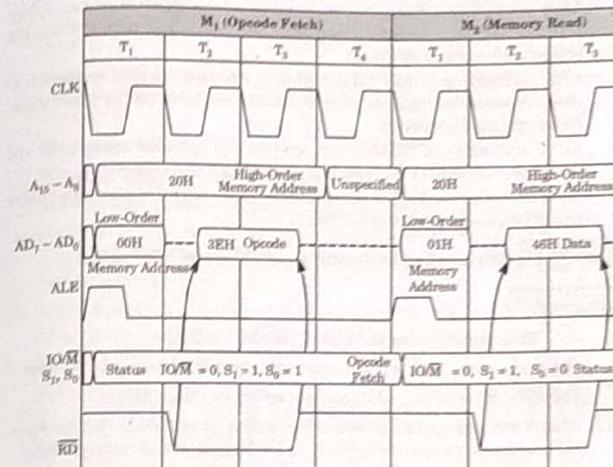

Fig. 2.9.1. 8085 Timing for execution of the instruction MVI A, 46H.
- The first machine cycle is Opcode Fetch and the second machine cycle is Memory Read, as shown in Fig. 2.9.1.